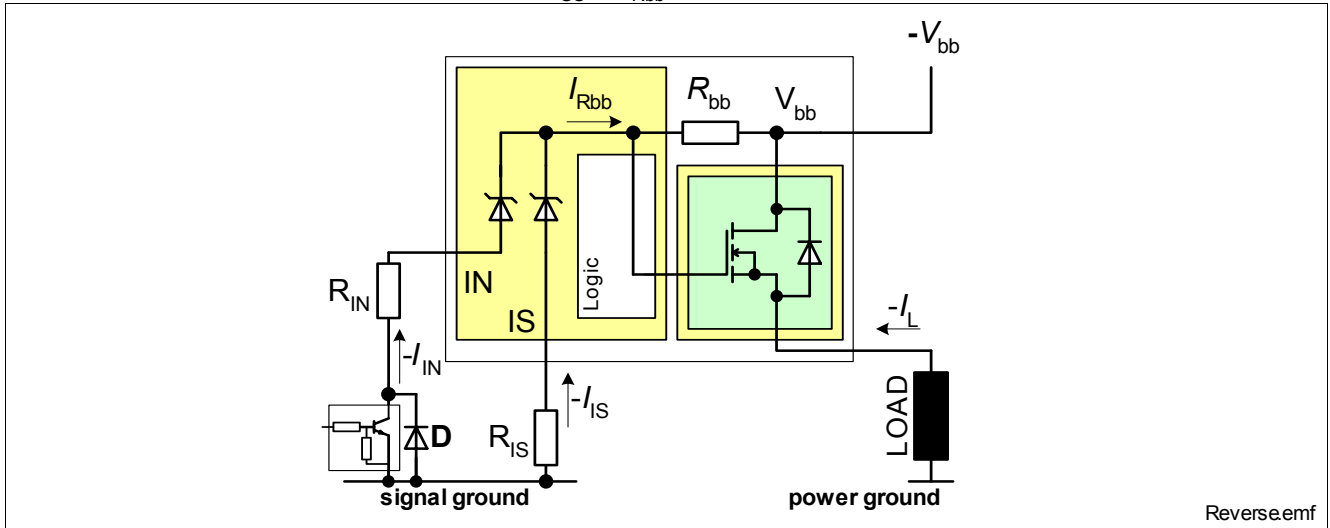

Figure 14 Reverse battery protection
4) Slew rate limitation can be achieved by means of using a series resistor for the small signal driver or in series in the input path. A series resistor R_{IN} in the input path is also required for reverse operation at $V_{bb} \leq -16\text{V}$. See also Figure 14.
The device can not block a current flow in reverse polarity condition. In order to minimize power dissipation, the device offers Reversave® functionality. In reverse polarity condition the channel will be switched on provided a sufficient gate to source voltage is generated $V_{GS} \approx V_{Rbb}$. Please refer to Figure 14 for details.